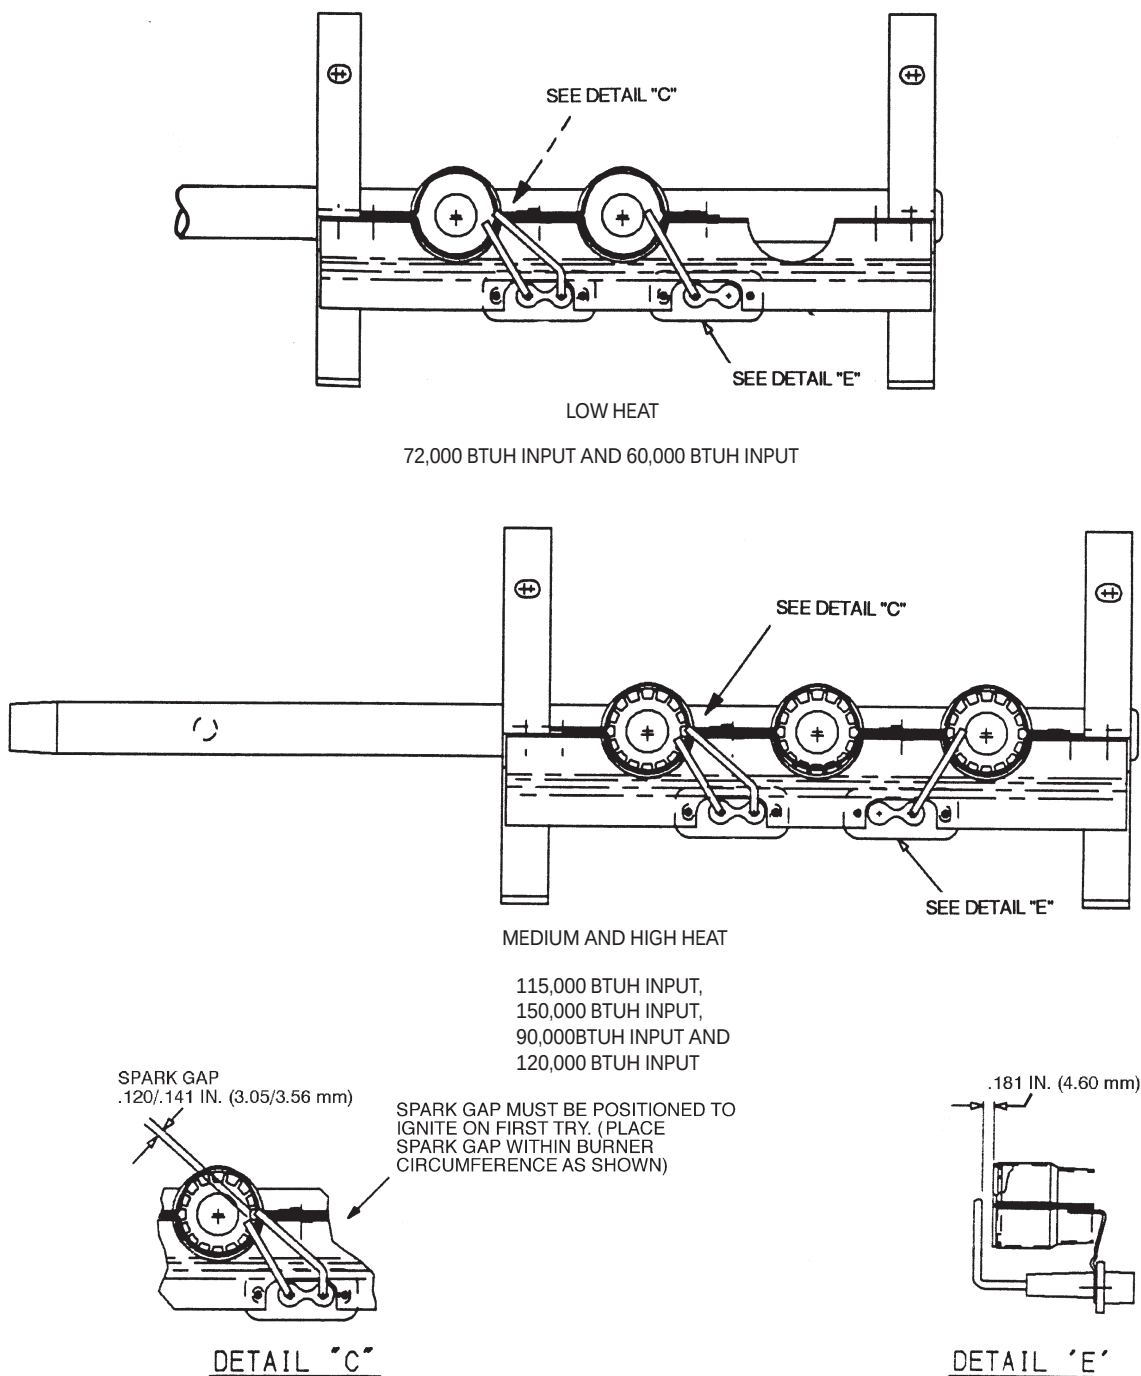

Fig. 14 - Spark Adjustment
4. Adjust spark gap. (See Fig. 14.)